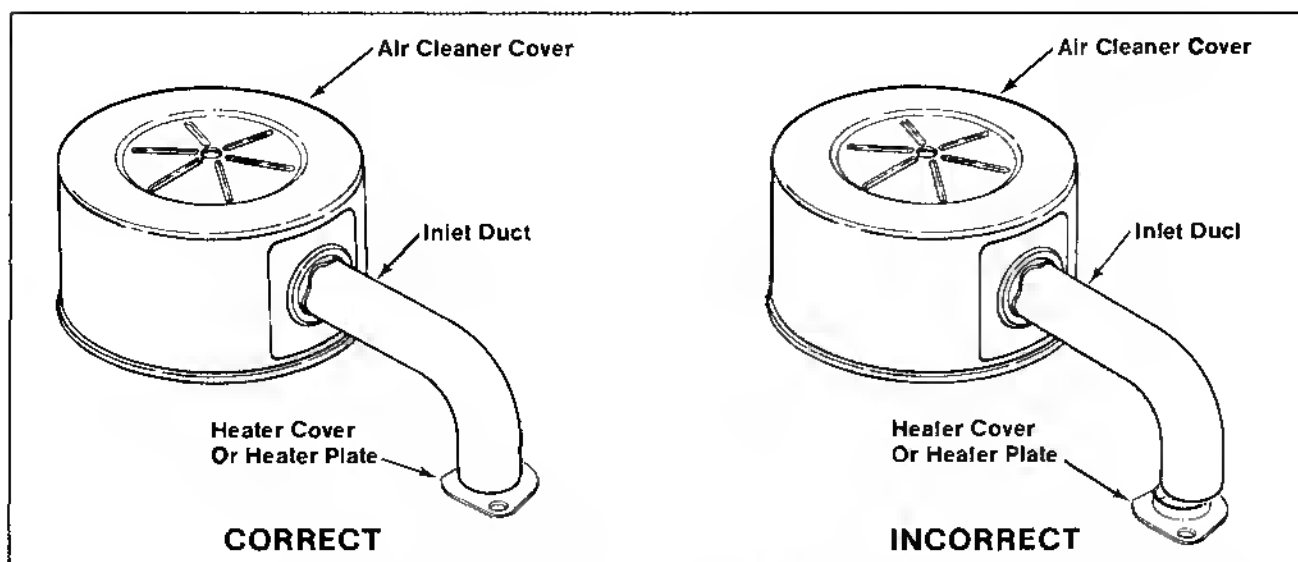

Figure 5-6. Installing Anti-Icing Air Cleaner Cover.
**For "Winter" Position** - Make sure the inlet duct fits completely over heater plate or heater cover. Refer to Figure 5-6. Make sure the air cleaner cover is sealed tightly around the entire perimeter of air cleaner base.